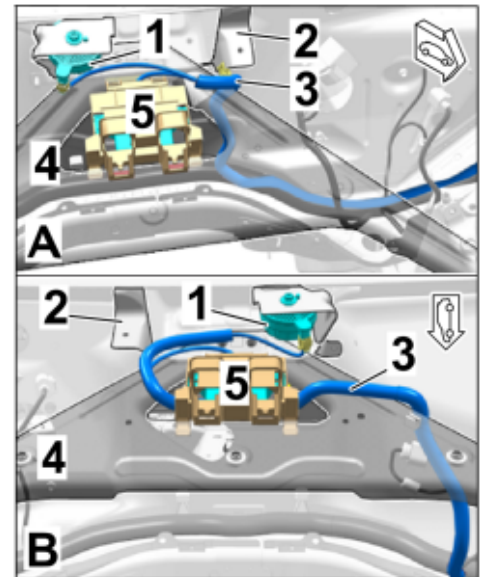

Figure 14
2.2.2 Guide the pin (underside of engine noise pulse sender) into the hole on the firewall holder from below (⇒ *Figure 14 -2-*, plenum panel).
2.2.3 Secure the engine noise pulse sender in the firewall holder (plenum panel) using an M6 hexagon nut (1 x) (⇒ *Figure 14*)